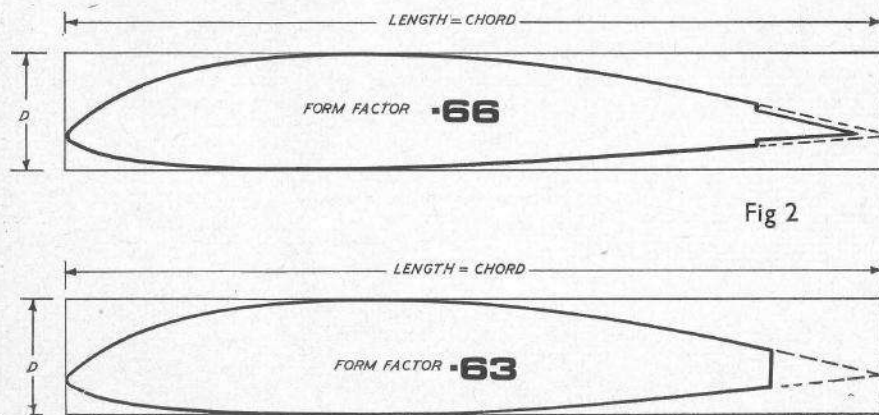

Fig 2
In the case of *ribs*, the chord is taken as the *length* dimension. The section is then taken as the maximum depth (D) of the section (in $\frac{1}{32}$ " units) multiplied by the thickness of the rib (again in $\frac{1}{32}$ " units). Typical *form factors* for ribs are 0.63 in the case of a solid trailing edge section, and 0.66 where a two-piece sheet trailing edge is used—Fig. 2.
form factor 0.66 (i.e. from Fig. 2)